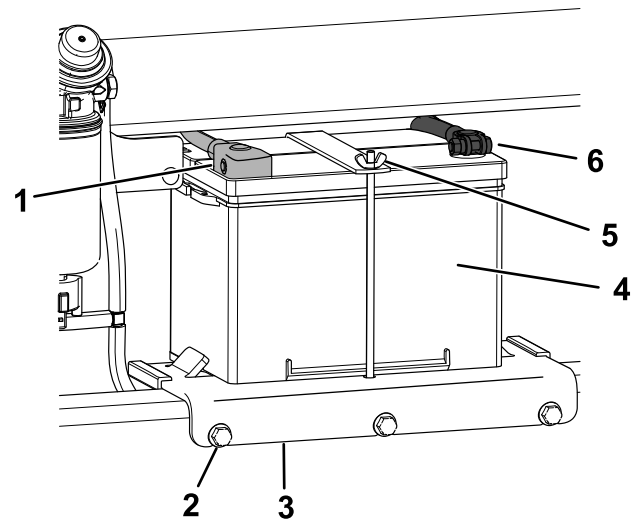

Figure 56
4. Disconnect the negative (black) ground cable from the battery post (Figure 56). Retain the fasteners.
6. Disconnect the positive (red) cable from the battery post (Figure 56). Retain the fasteners.
7. Loosen the 3 bolts securing the battery tray and remove the tray with the battery (Figure 56).
1. Place the battery on the battery tray and secure it with the wing nut and rod (Figure 56).
2. Install the battery tray to the machine and secure with the 3 bolts (Figure 56). Torque the bolts to 41 N·m (30 ft-lb).
3. Using the fasteners previously removed, install the positive (red) battery cable to the positive (+) battery terminal (Figure 56).
5. Using the fasteners previously removed, install the negative (black) battery cable to the negative (-) battery terminal (Figure 56).